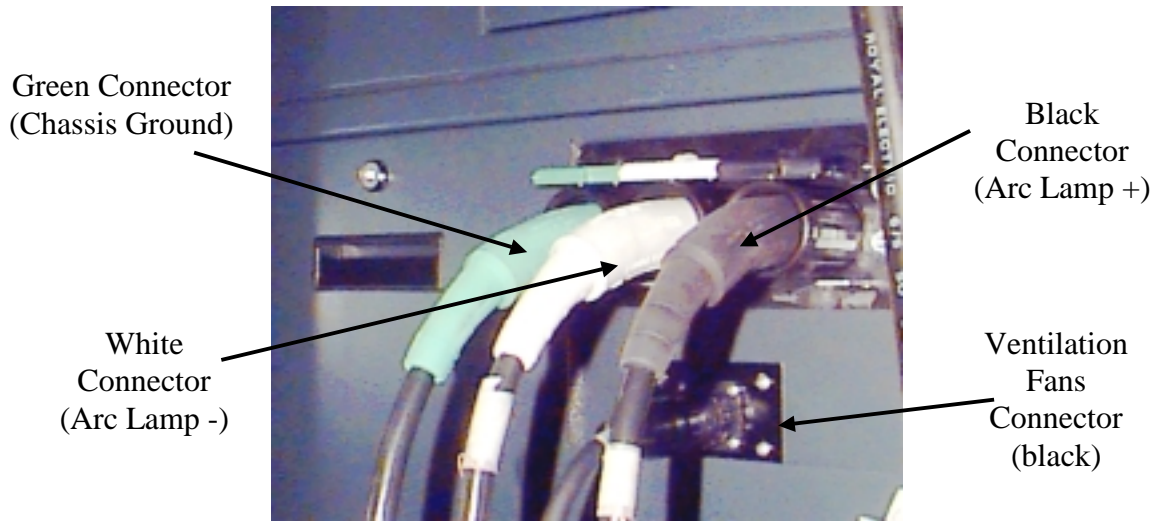

Figure 5-6 Arc Lamp (DC) Power Cables.
2. Connect the four Arc Lamp cables from the Arc Lamp Module to the Projection Module (see Figure 5-6). The Green cable must be connected first, then the white cable and then the black cable. The white cover will not lift up until the green cable is connected, The black cover will not lift up until the white cable is connected (see **Caution** below).